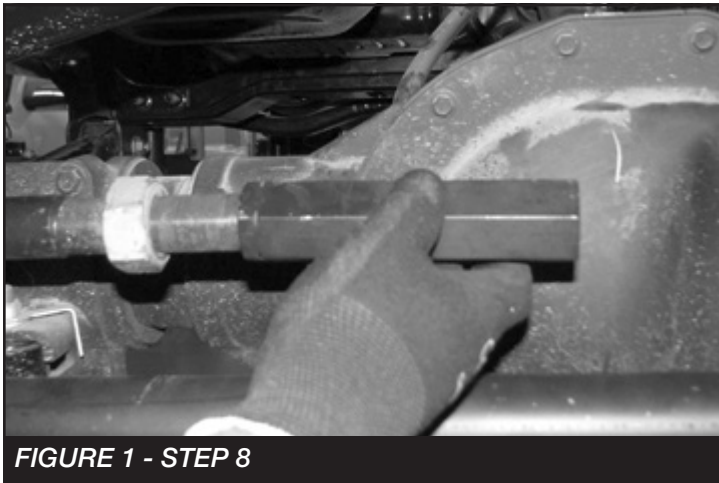

FIGURE 1 - STEP 8
8. Un-thread the factory drag link at the adjuster sleeve and remove adjuster sleeve. **SEE FIGURE 1**